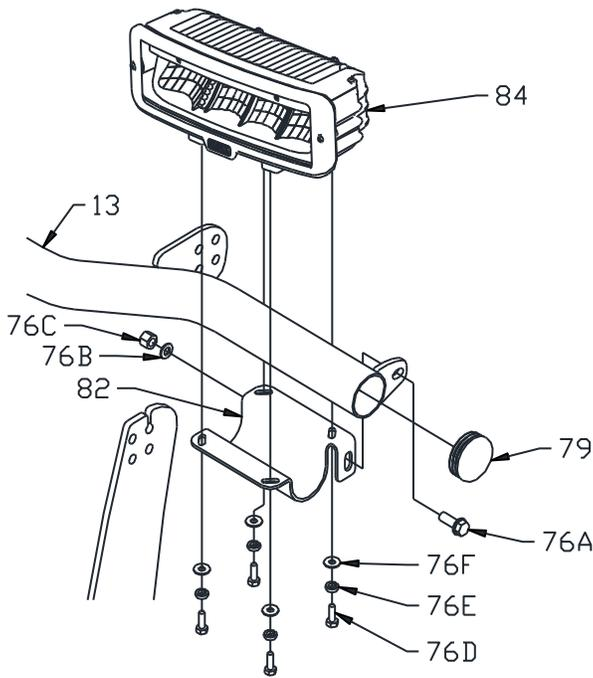

Figure 1. Headlight Mounting Assembly G10115
4. Place **MSC11109** Driver Side Headlight Bracket (82) below Light Bar (13) and secure with one **HDW02019** 3/8"-16 X 1" Hex Head Bolt (76A), one **HDW01733** 3/8" Flat Washer (76B), and one **HDW01720** 3/8" Nylon Lock Nut (76C). Refer to Figure 1 for reference.
5. Fasten **MSC16201** Driver Side Headlight (84) to Driver Side Headlight Bracket (82) using four **HDW01751** 1/4"-20 X 3/4" Hex Head Bolts (76D), four **HDW02018** 1/4" Split Lock Washers (76E), and four **HDW01750** 1/4" Flat Washers (76F). Leave fasteners finger tight until headlight orientation has been completed. See Figure 1 for proper fastener placement. **Torque to 6 ft-lbs. DO NOT USE THREAD-LOCKING COMPOUND.**
6. Repeat Steps 4&5 for **MSC11110** Passenger Side Headlight Bracket (83) and **MSC16202** Passenger Side Headlight (85).